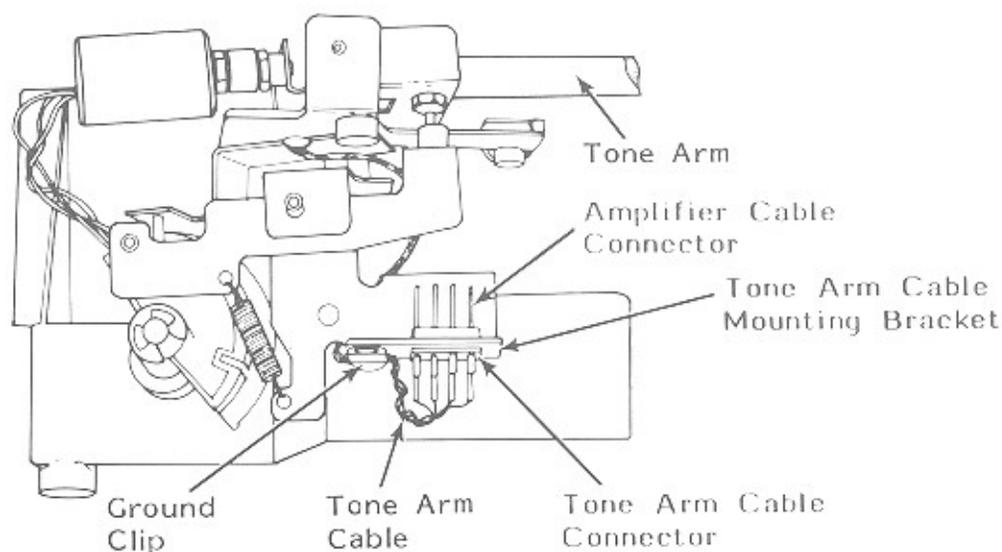

Figure 6-3. Tone Arm Cable
2. Locate the tone arm cable, cable ground clip (see figure 6-3), and tone arm cable connector.